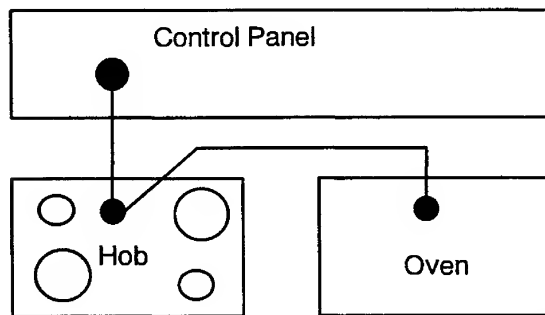

Fig. 2
- by connecting the cooker point to the hob and then connecting the hob to the oven. Provided that the hob manufacturer permits it, connect the oven to the hob and the hob to the cooker point using the same cabling as described above. Check the hob terminal block is large enough to take two cables and is of suitable rating. See Fig. 2.